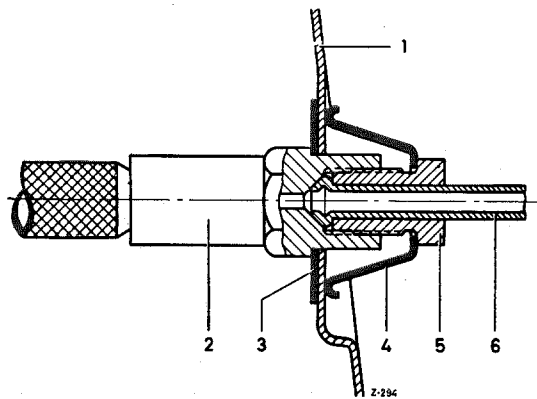

Fig. 33—1/4
6. Back out the sleeve nut (5) of the brake line (6), at the left and at the right wheel arch assembly (1), from the brake hose (2), 2—3 turns (see Fig. 33—1/4). Then unscrew the brake hose from the brake line at the left and right at the brake anchor plate.